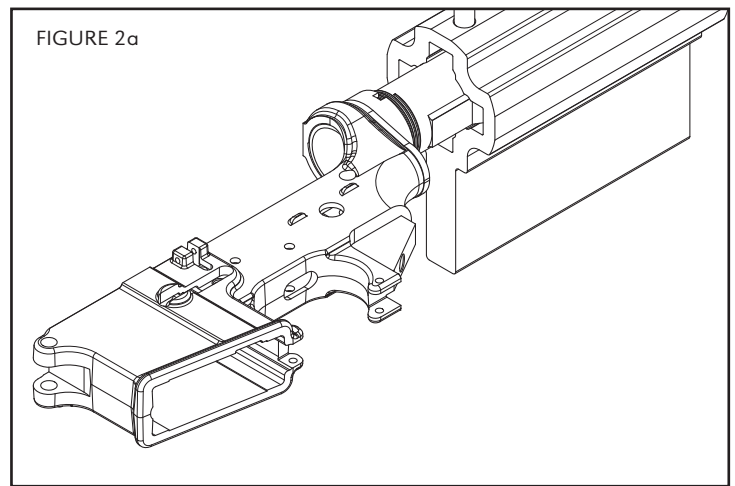

FIGURE 2a
- a. **The 3 O'clock Position:** Installation of the magazine catch and/or trigger guard (FIGURE 2a).